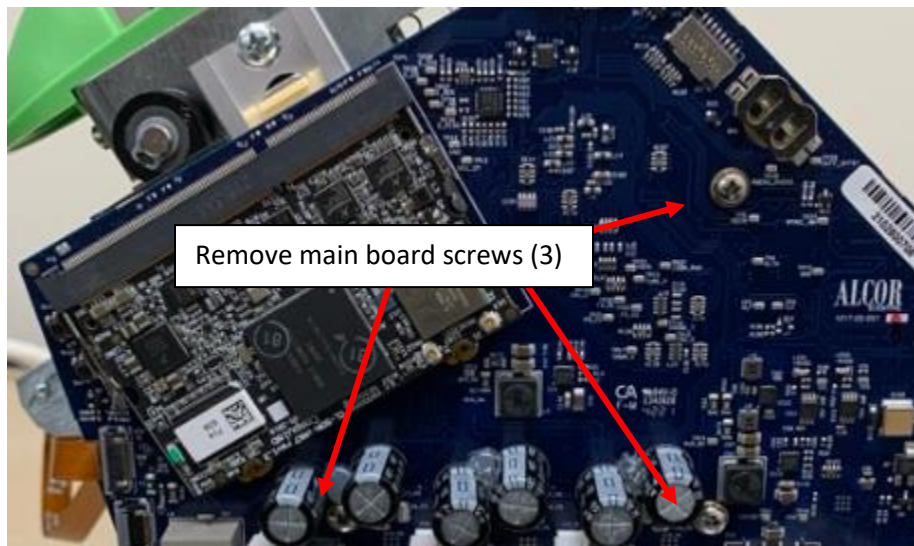

Figure 9
- 2.8. Remove the Main board by removing the 3 screws shown in Figure 9.